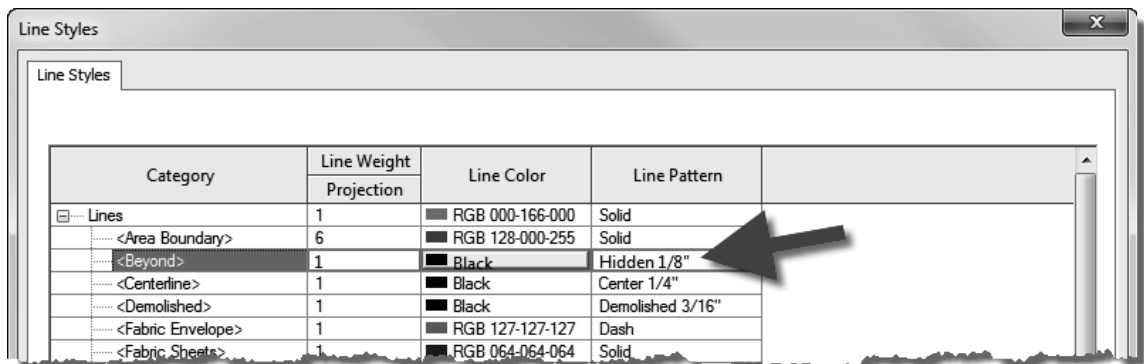

FIGURE 7-5.11 Line Style settings
48. Change the *Line Pattern* for <Beyond> to **Hidden 1/8"** (Figure 7-5.11).